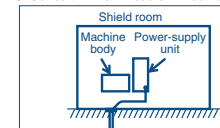

Fig. 3
- Ground the wire-cut EDM in the shield room (Fig. 3).